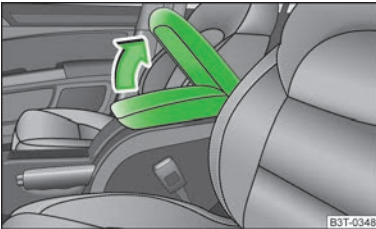

Fig. 96
- Open the lid of the armrest in the direction of the arrow » Fig. 96.